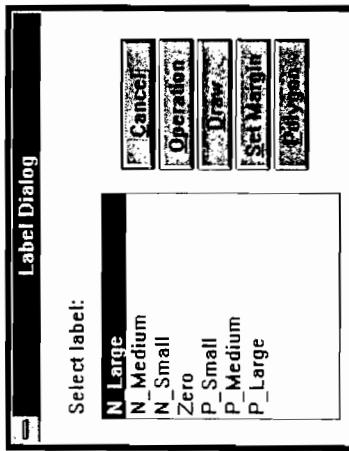

Figure 2-5 *Fide/MF-Edit/Label Dialog Box*
Whether you have selected an editable or non-editable membership function, the next dialog box encountered is shown in Figure 2-5 below.
MF-Edit supports a powerful tool for membership function editing. You can perform standard operations on existing membership functions to produce a resultant membership function. Press the Operation button of the Label Dialog box as shown in Figure 2-5 above to initiate an operation. An Operator Dialog box comes up as shown in Figure 2-6.
2. An Operand 1 dialog box similar to that shown in Figure 2-5 above appears. Click on a label name to select it as operand 1. Press the OK button to choose the membership function represented by the label name.
The Label Dialog (Figure 2-5) allows you to select a particular membership function for editing. Use your mouse to click on a label. It is highlighted in the